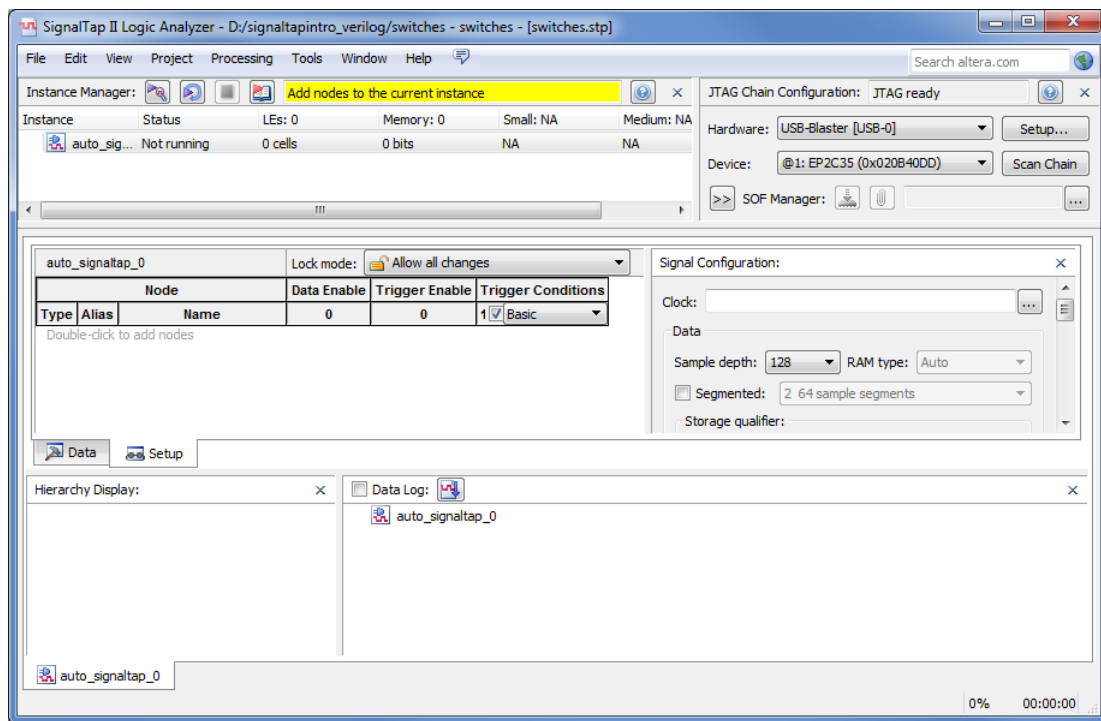
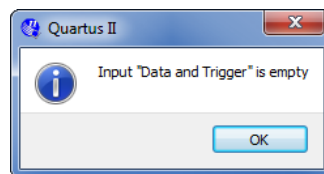
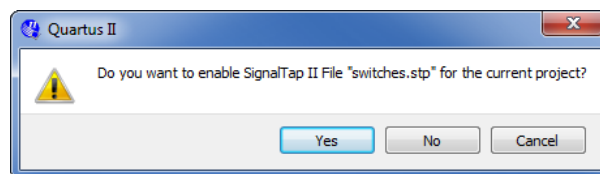

Figure 4. The SignalTap II window.
Figure 5. Click OK to this dialog.
Figure 6. Click Yes to this dialog.
To enable the TalkBack feature in Quartus II, select **Tools > Options**. In the Options window, select **Internet Connectivity** from the menu, and click on **TalkBack Options...** to open the window shown in Figure 4. If you accept the TalkBack License Agreement, then check the box labelled **Enable sending TalkBack data to Altera** and click **OK**.
2. The SignalTap II window with the **Setup** tab selected is depicted in Figure 4. Save the file under the name *switches.stp*. In the dialog box that follows (Figure 5), click **OK**. For the dialog "Do you want to enable SignalTap II file 'switches.stp' for the current project?" click **Yes** (Figure 6). The file *switches.stp* is now the SignalTap file associated with the project.